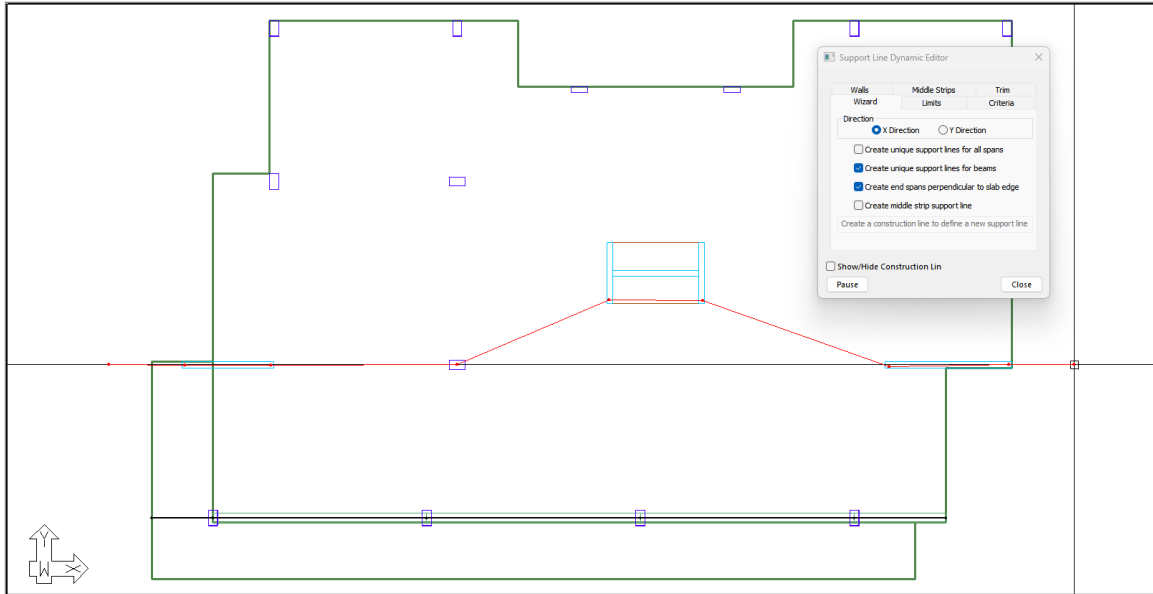

FIGURE 9-10
- Left click the mouse outside of the slab region, in line with the wall, to enter the final point of the construction line. At this point the users screen should look like **FIGURE 9-10**.